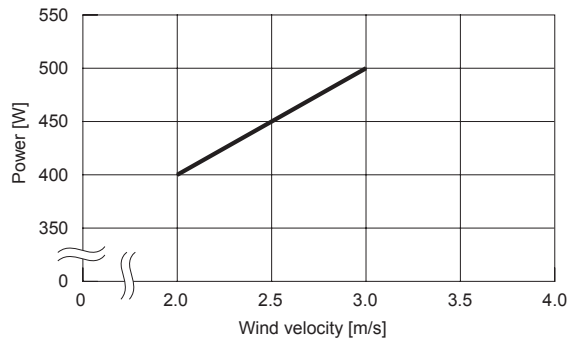

Fig.3.5 The maximum output power by wind speed conditions
* Maximum power with Forced air (Fig.3.5)